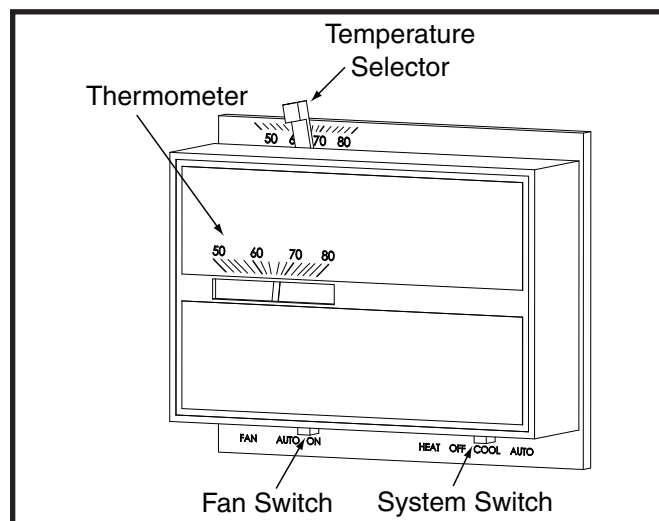

Figure 1. Typical Thermostat
1. Set the thermostat system switch (Figure 1) to COOL or AUTO and the thermostat fan switch to AUTO.
1. Set the thermostat system switch (Figure 1) to HEAT or AUTO and the thermostat fan switch to AUTO.
Set the thermostat system switch (See Figure 1) to OFF and the thermostat fan switch to AUTO. **NOTE:** The system will not operate, regardless of the temperature selector setting.